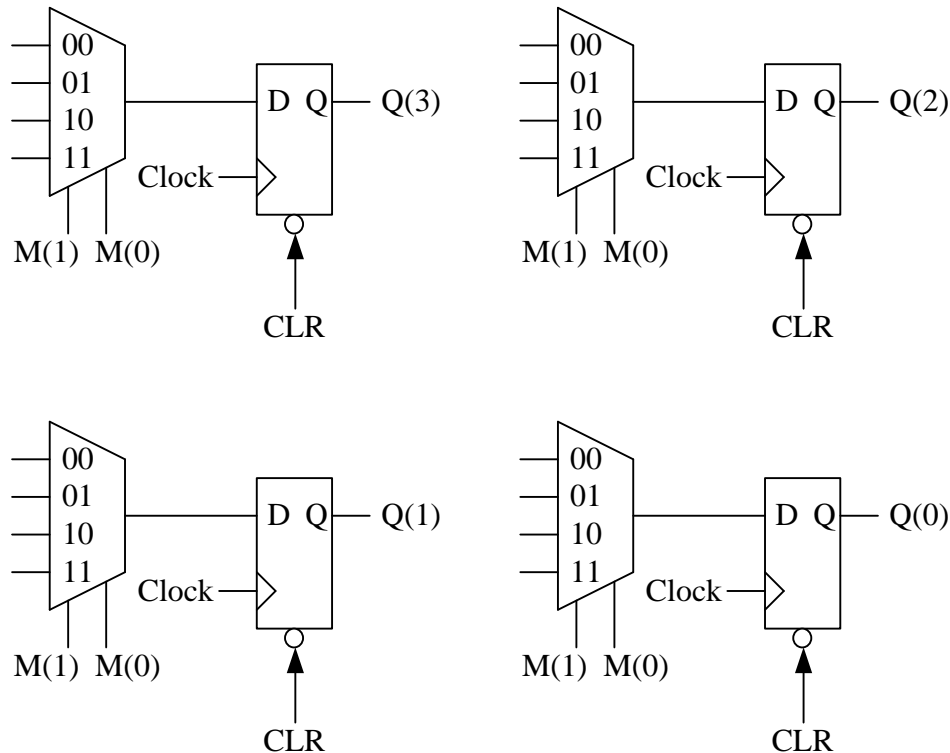

Figure 2: Schematic of universal shift register.
- (1) Complete the schematic shown in Figure 2 by labeling the **actual inputs** for each multiplexer,
- (2) Write the **behavioral** code for two components: D flip-flop and 4-to-1 multiplexer,
- (3) Write the **structural** code for the register,
- (4) Test the register by simulating it using a testbench. A sample testbench is provided in this document, which tests the asynchronous clear signal (i.e., CLR) and two modes: parallel load and right shift. You need to modify it to test the other two modes: no change and left shift.